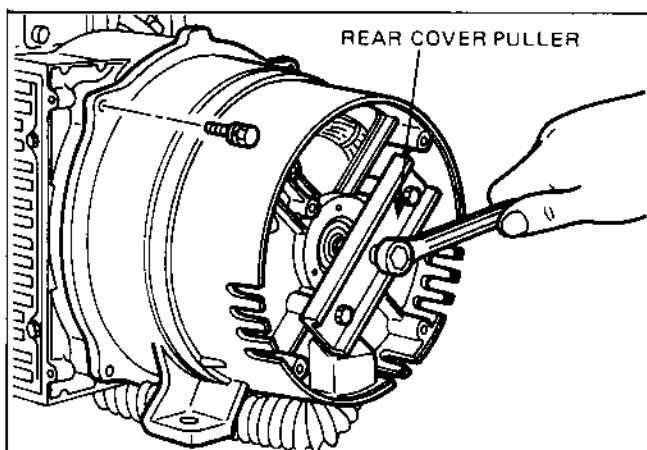

Fig. 10-14
(3) Remove the four bolts which join the rear cover to the front cover.
(4) Take off the rear cover. Use the special tool "REAR COVER PULLER" to remove the rear cover. (See Fig. 10-14.) a. Insert the two bolts of the special tool into the thread holes of the rear cover. b. Apply the center bolt of the special tool to the center hole of the rotor shaft. c. Tighten the center bolt to pull out the rear cover. (See Fig. 10-15.)	Insert the two bolts suf- ficiently and evenly, or the thread holes may be damaged at removing.